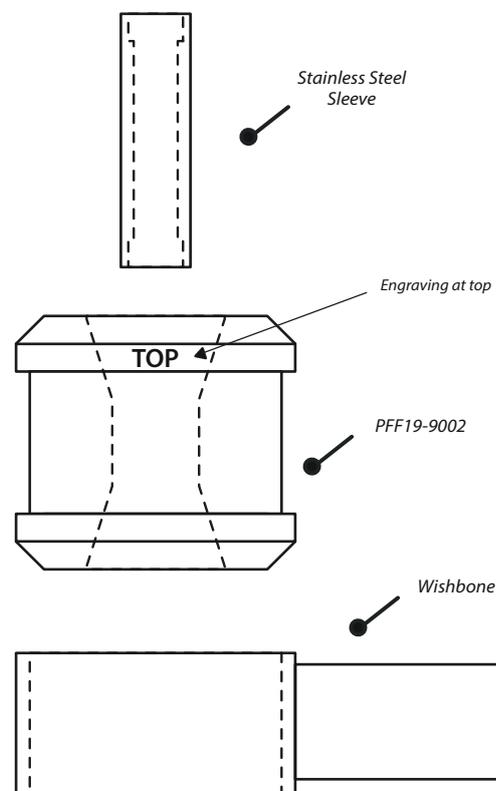

Figure 1
4. Using a small amount of dish soap as lubricant, press the polyurethane bush into the wishbone, with the engraving on the top side of the wishbone (Figure 1).